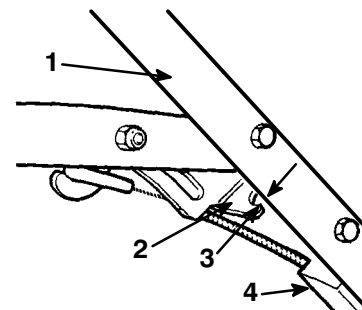

Figure 32
- Loosen the nut on the cable bracket (Fig. 32).